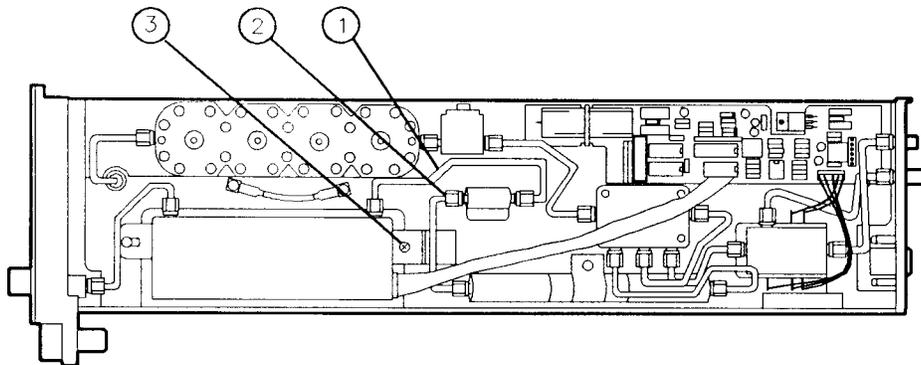

Figure 6-9. A9 Limiter Replacement
3. Remove the W4 semirigid cable from the A8 Input Attenuator and from the A9 Limiter (1). See Figure 6-9.
4. Disconnect the W5 semirigid cable from the A9 Limiter output (2).
5. Remove the A9 Limiter clamp by removing the screw (3).